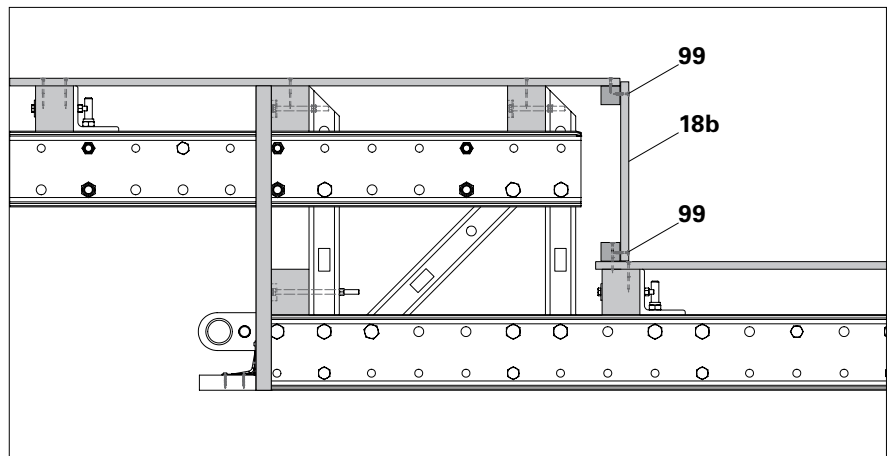

Fig. C3.06a
5. Pre-drill cover sheet (18b) and fix to timbers (87 + 87a) using screws 6 x 60 (99). (Fig. C3.06a)